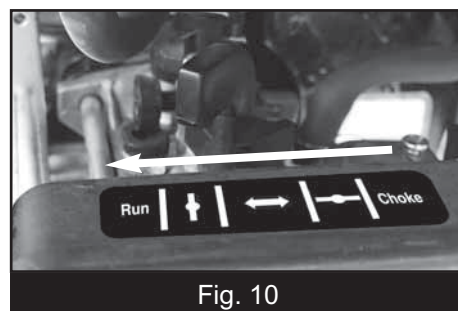

Fig. 10
5. When the engine has been successfully started and is running smoothly set the choke lever to the OPEN position (Fig.10).